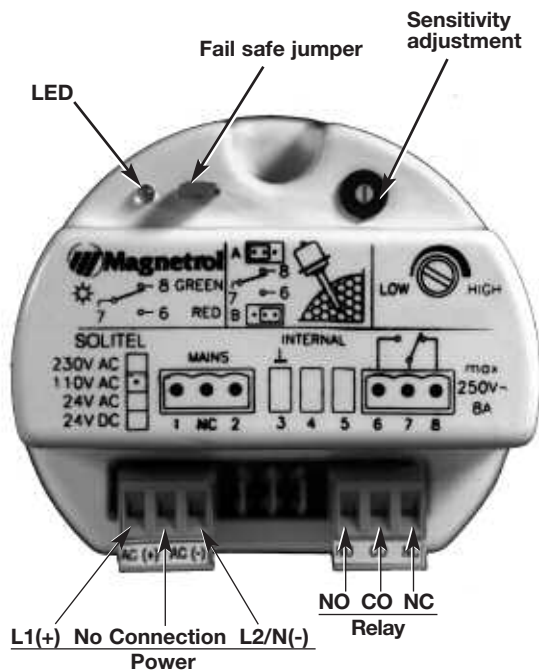

Figure 6
5. Connect relay terminals. Refer to Figure 6.